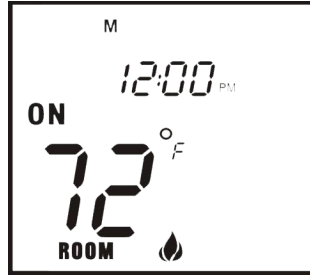

Fig. 9 Manual ON
Step 1: Press the MODE button one time to manually turn **ON** the appliance (Fig. 9).